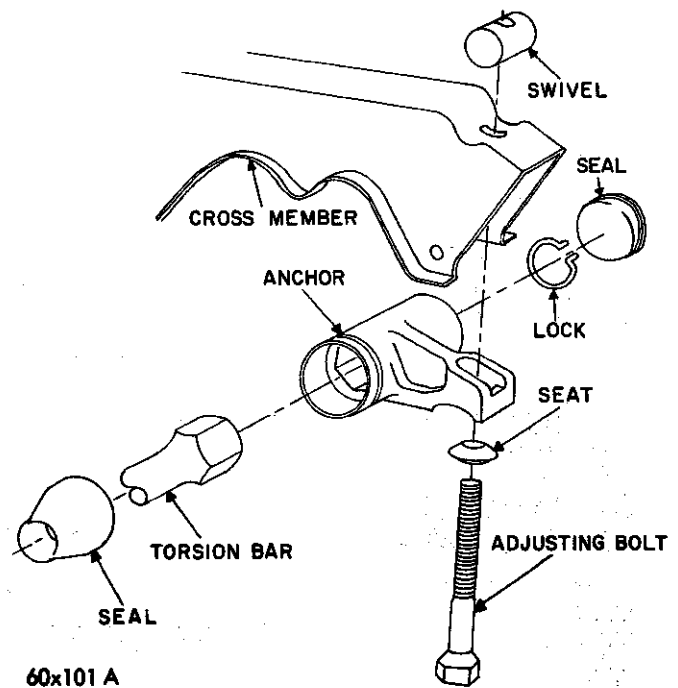
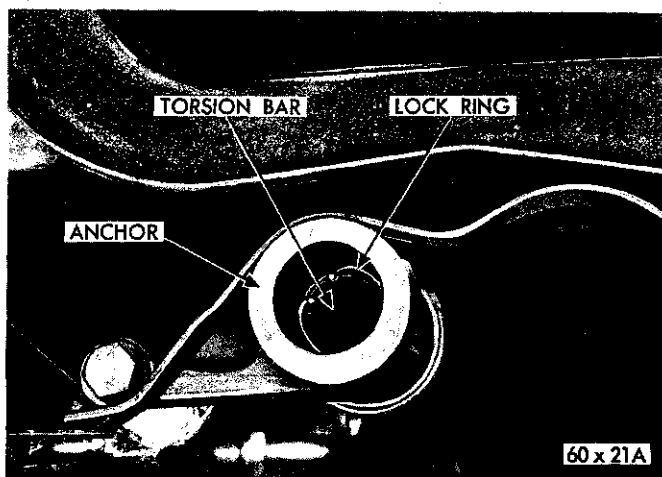

Fig. 3—Torsion Bar Rear Support Assembly
Fig. 4—Torsion Bar Lock Ring
(3) Remove the plastic seal (Fig. 3) from the rear end of the torsion bar anchor. Remove the lock ring from the rear of the torsion bar anchor (Fig. 4).
(4) Slide the torsion bar toward the rear of the vehicle sufficiently to disengage the forward end from the lower control arm. Slide the torsion bar forward and down, disengaging it from the anchor. Remove the torsion bar from under the vehicle.